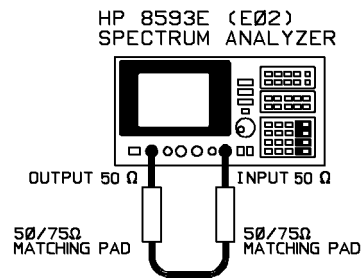

Figure 3-8. Calibration Setup
- b. The analyzer will prompt you to connect RF OUT to INPUT. This connection should be made using any hardware that will be used in the actual test (with the exception of the DUT). Figure 3-8 shows the spectrum analyzer connected with the matching pads and the same cables that will be used in the test.
Although only one matching pad will be used in the actual test, both of the pads shown in Figure 3-8 should be used for the calibration, to avoid an impedance mismatch. However, any unflatness in the matching pad will cause a slight inaccuracy in the calibration.
- b. The analyzer will prompt you to connect **RF OUT** to **INPUT**. This connection should be made using any hardware that will be used in the actual test (with the exception of the DUT). Figure 3-8 shows the spectrum analyzer connected with the matching pads and the same cables that will be used in the test.